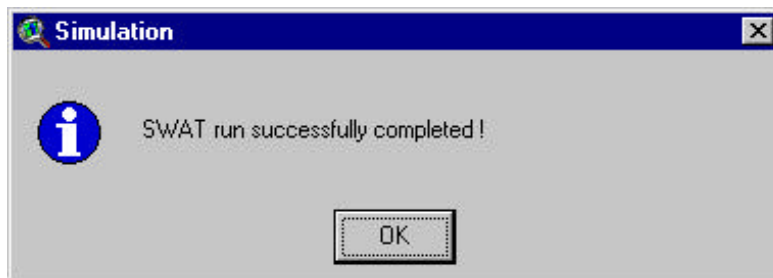

Figure 13.29
- b. If the simulation terminates properly, a message box will notify the user of a successful run (Figure 13.29).